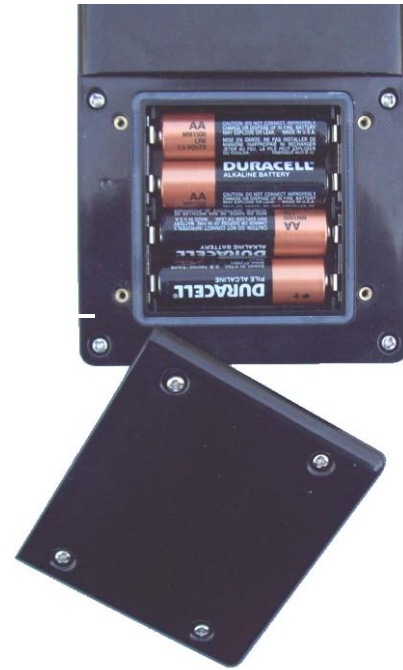

Figure 18: Battery Compartment
3. Plug each fresh battery into a terminal cradle observing proper polarity. (If the batteries are improperly installed, the unit will not be damaged, but it will fail to operate.) The cradle is embossed with polarity markings for each terminal—emphasized in Figure 18. Make sure they are firmly seated in the unit.